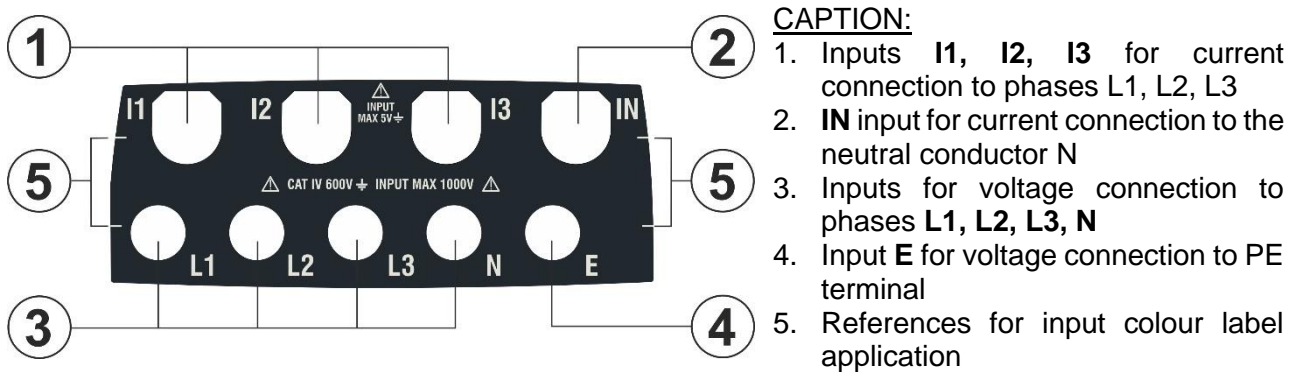

Fig. 2: Description of instrument input terminals
Similarly, it is possible to customise the input connector plate (see Fig. 2) by applying a label showing the colours of the cables. An example of the "standard" colours commonly used in various countries is given in the following Table 1. The instrument also allows a similar customisation of the colours used for the electrical quantities displayed in the various measurement screens.
- The instrument is supplied with a **neutral** connector side label (see Fig. 2). Apply the label with the desired colour of the cables (according to the country selected) among those available in the **YMETK0042HT0** kit supplied, following the indications given on the neutral one (see Fig. 2 - Part 5)